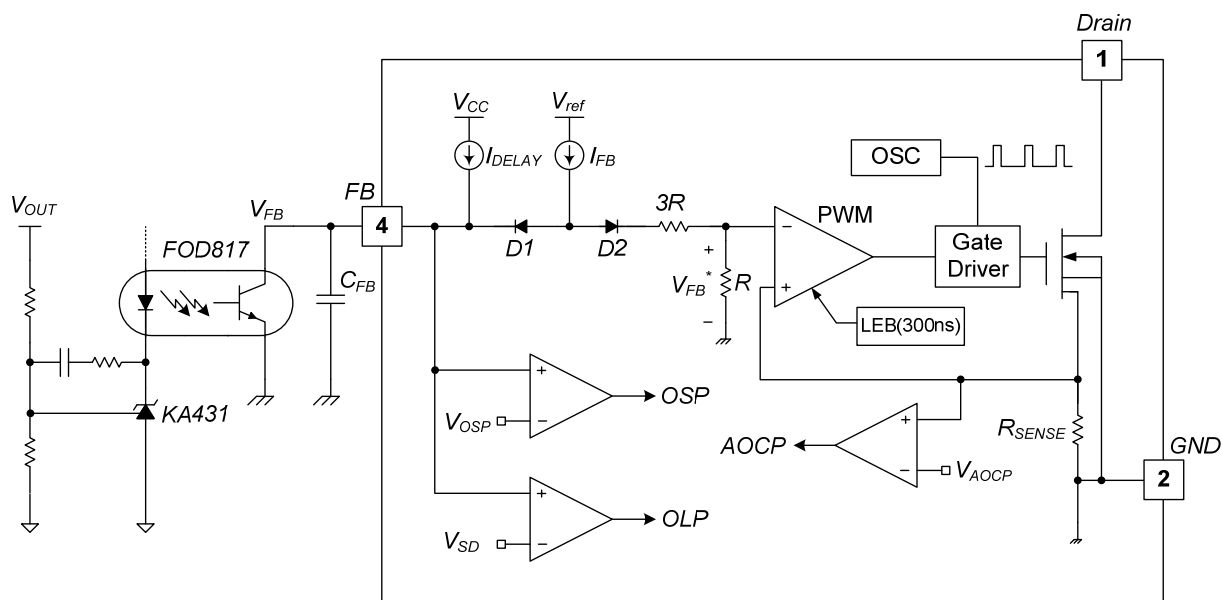

Figure 18. Pulse Width Modulation Circuit
3. Feedback Control: This device employs current-mode control, as shown in Figure 18. An opto-coupler (such as the FOD817) and shunt regulator (such as the KA431) are typically used to implement the feedback network. Comparing the feedback voltage with the voltage across the R_{SENSE} resistor makes it possible to control the switching duty cycle. When the reference pin voltage of the shunt regulator exceeds the internal reference voltage of 2.5 V, the opto-coupler LED current increases, pulling down the feedback voltage and reducing drain current. This typically occurs when the input voltage is increased or the output load is decreased.
3.1 Pulse-by-Pulse Current Limit: Because current-mode control is employed, the peak current through the SenseFET is limited by the inverting input of the PWM comparator (V_{FB}^*), as shown in Figure 18. Assuming that the 90 μ A current source flows only through the internal resistor ($3R + R = 27$ k Ω), the cathode voltage of diode D2 is about 2.5 V. Since D1 is blocked when the feedback voltage (V_{FB}) exceeds 2.5 V, the maximum voltage of the cathode of D2 is clamped at this voltage. Therefore, the peak value of the current through the SenseFET is limited.